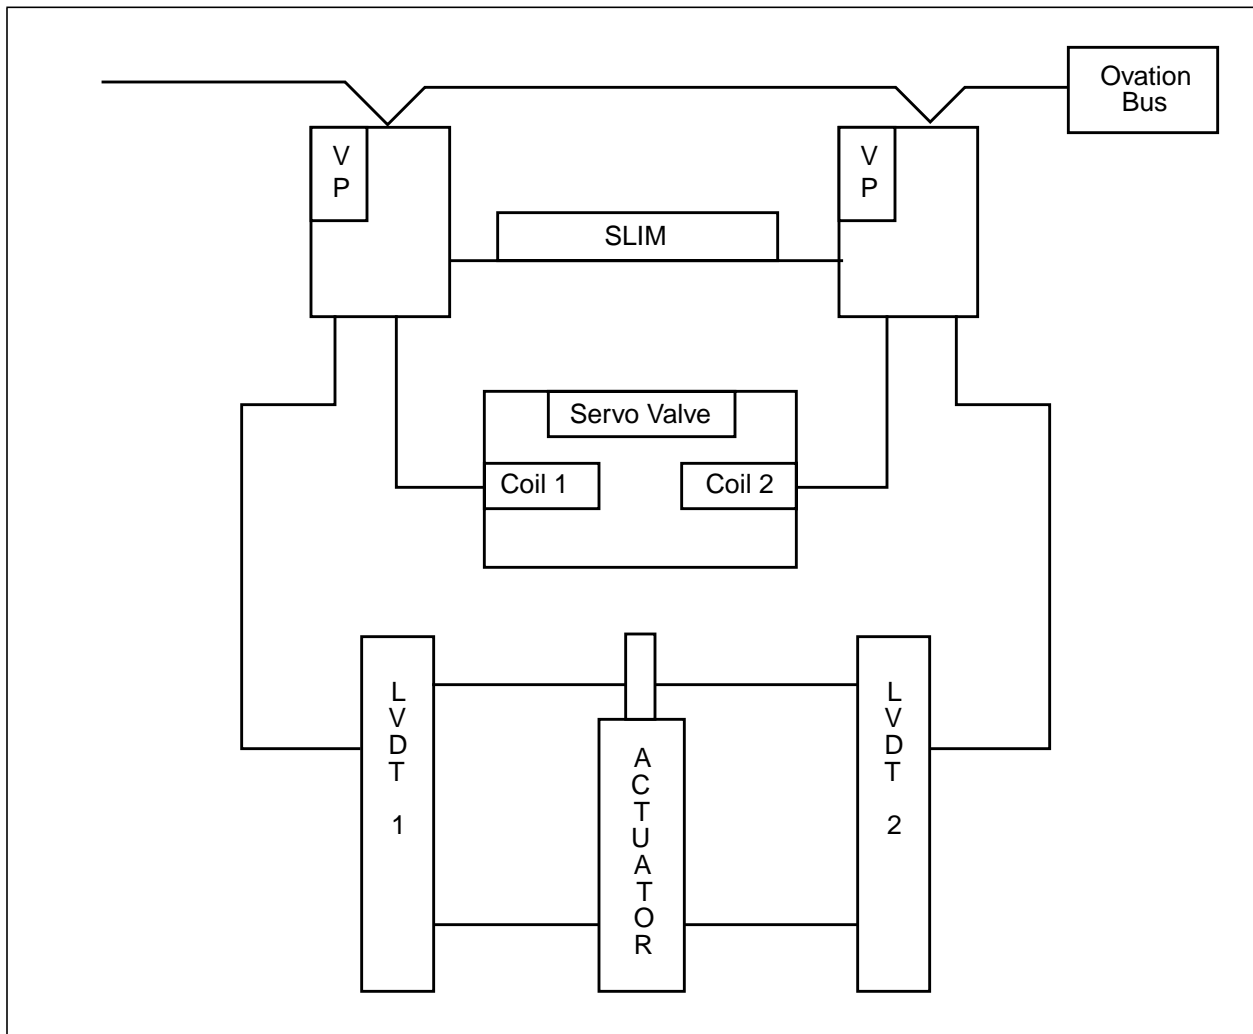

Figure 25-1. Redundant Ovation Valve Positioner Subsystem
Two Ovation Valve Positioner (VP) cards (Primary and Backup) operate as a Primary backup pair to control a single steam valve (see Figure 25-1). The steam valve is fitted with two LVDTs, one connected to each Valve Positioner. Each VP then drives one coil in a high pressure hydraulic servo valve. The coils are completely isolated.